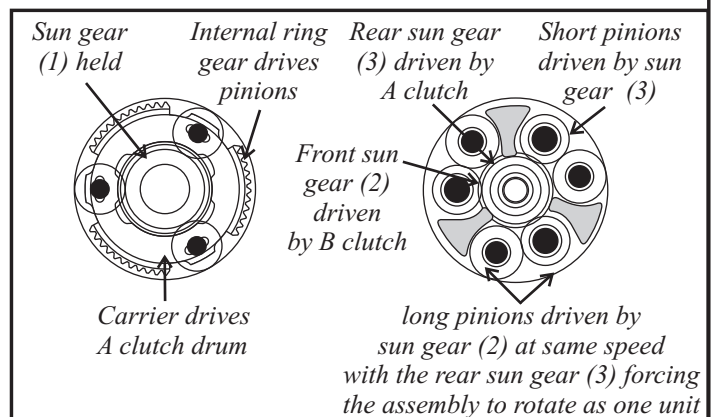

Figure 10
**Powerflow in 3rd gear:** Once again the A clutch is applied as it is in 1st and 2nd. The C clutch is released and the B clutch is applied. This now drives both sun gears in the same direction and at the same speed inside the double planetary output carrier. This causes the pinions, the carrier and internal ring gear to rotate as 1 complete assembly driving the output shaft in an approximate reduction ratio of 1.521:1 (Figure 10).